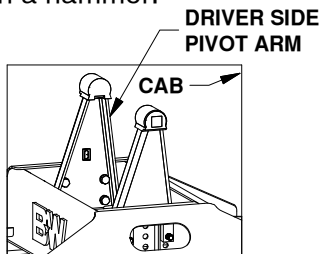
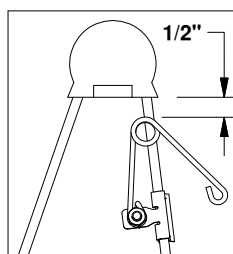

Figure E3:
Figure E4: Driver
- Attach kit.** Locate the flange which will be closest to the truck cab on the driver side pivot arm, see Figure E3. The clip should be placed so that when the spring's coil is in the line with the edge of the arm there will be 1/2" of clearance between the bottom of the polyurethane bushing and the top of the spring, see Figure E4. Drive the clip securely onto the flange with a hammer.